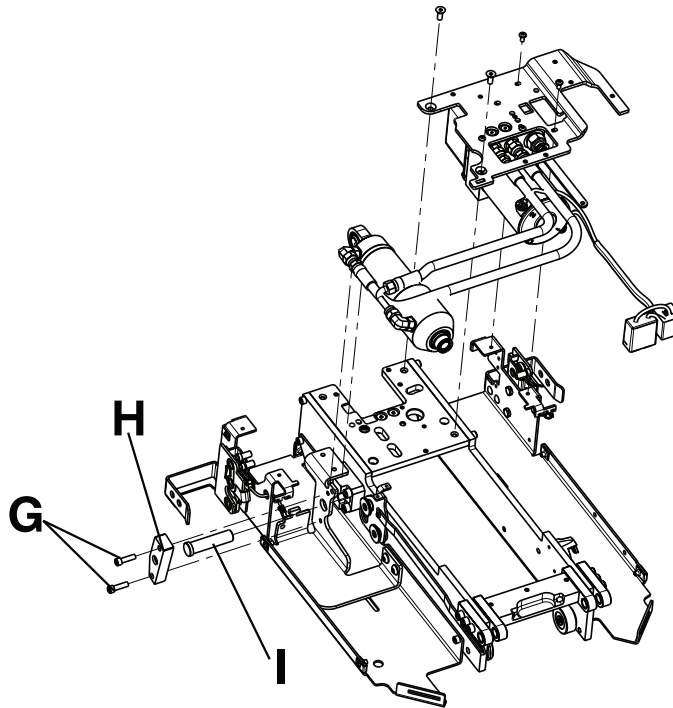

Figure 24 – Pin and hydraulic cylinder removal
11. Using a 3/16" hex wrench, remove the two screws (G) that secure the pin bracket (H) to the trolley (Figure 24).
12. Remove the pin (I) and lift the hydraulic cylinder out (Figure 24).